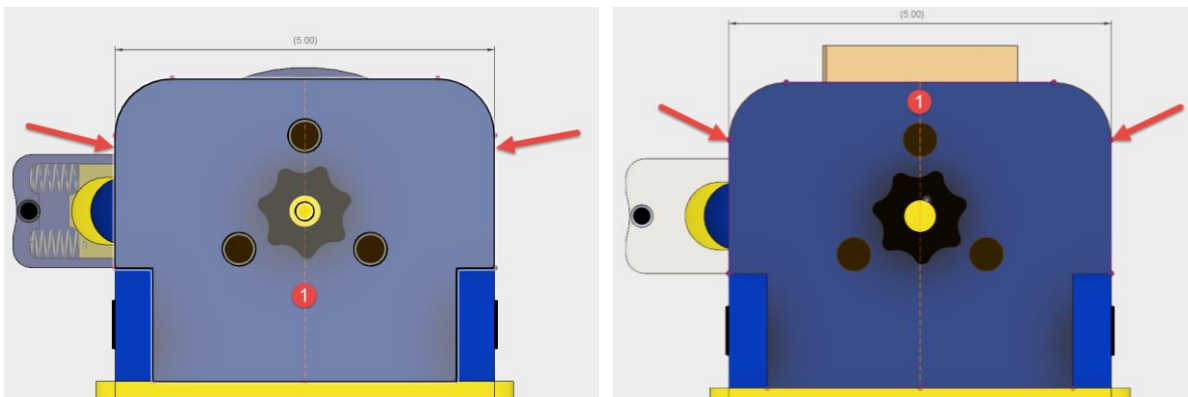

Figure 14
- 1) From a C3'd position, touch off on both sides of the driven side, at or below the red arrows using the paper test and record the two positions (Figure 14).